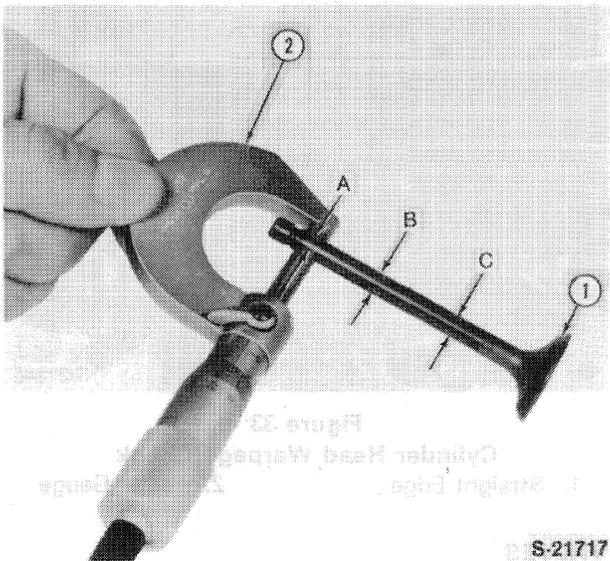

Figure 35
2. Using a micrometer measure the valve stem at points "A," "B" and "C," Figure 35.